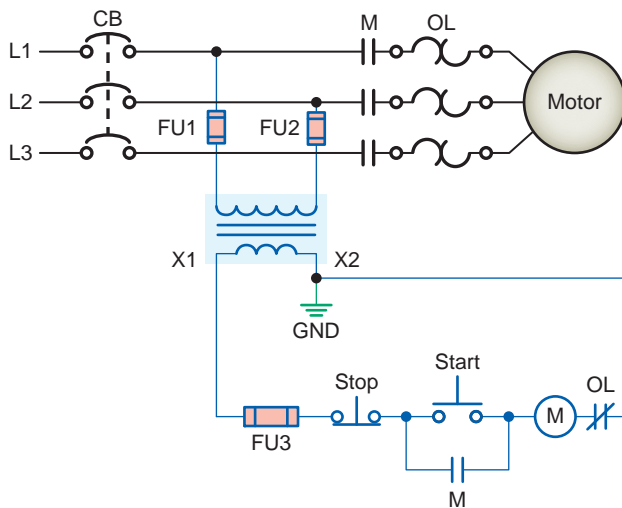

Figure 3-39 Circuit for review question 5.
- For the motor control circuit of Figure 3-39, assume the circuit is *incorrectly* grounded at X1 instead of